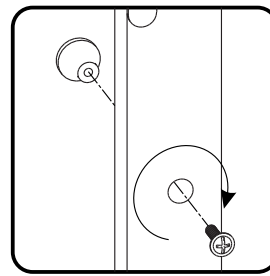

Figure 9
Attach Knob to Door (S) with Machine Screw. (See Figure 9)